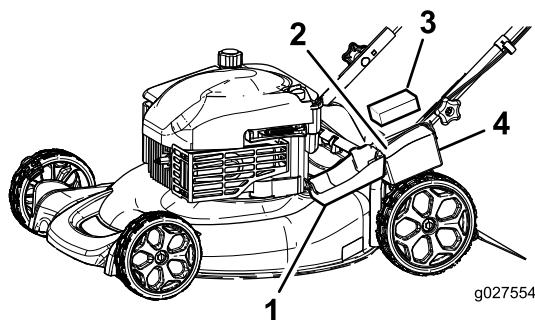

Figure 27
1. Unclip the battery cover and remove it (Figure 27).